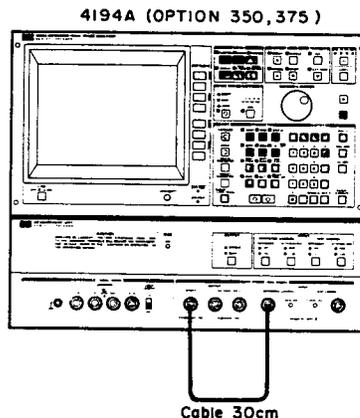

Figure 4-27. Gain-Phase Measurement Crosstalk Test Setup
1. Set up the equipment as shown in Figure 4-27.